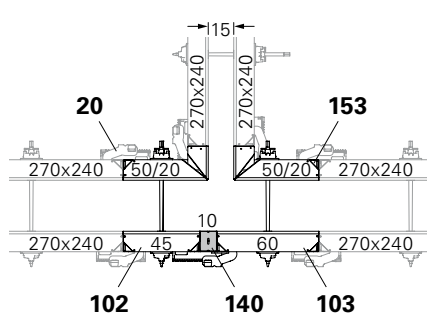

Fig. B4.01
- Wall thickness 15: Fig. B4.01